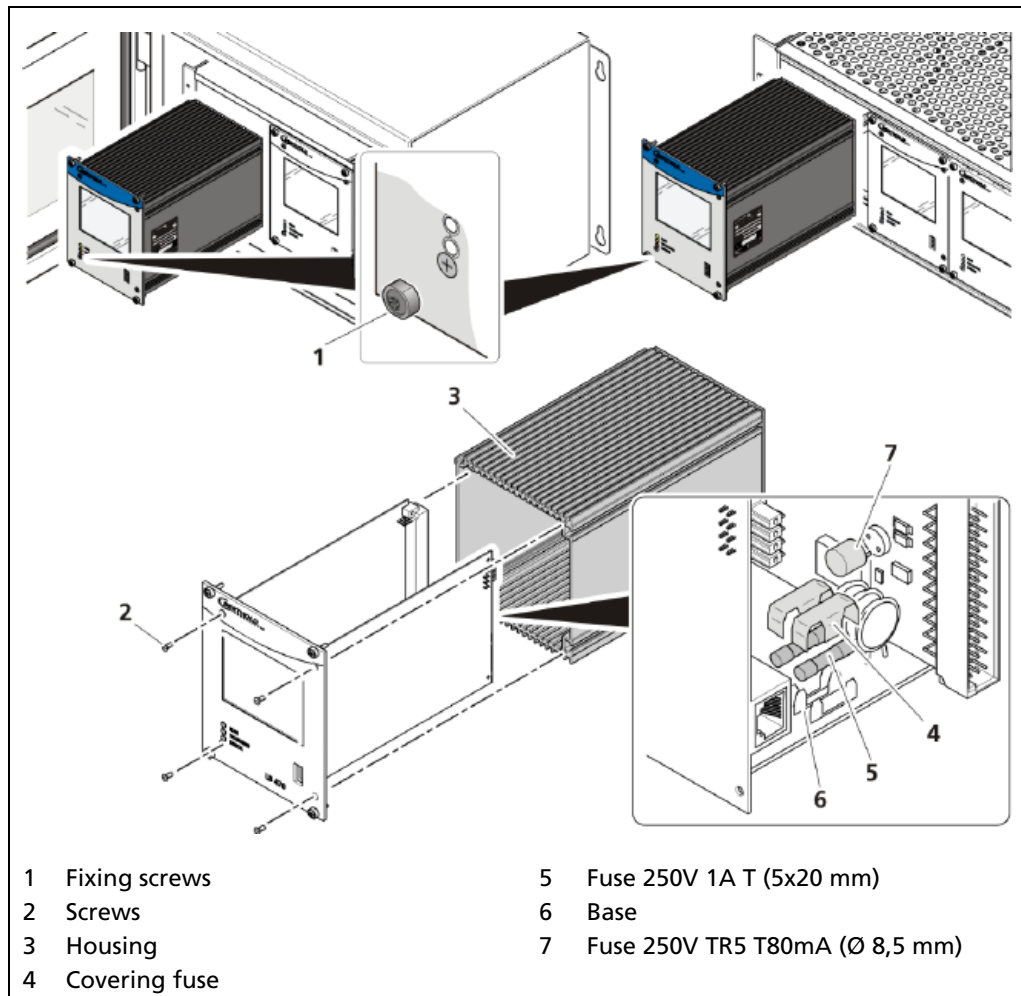

Fig. 132 Replacing fuses master EVU
2. Loosen the four fixing screws (Fig. 132, item 1) and remove the EVU from the wall housing or subrack.
3. Loosen the four sunken screws on the front side of the EVU (Fig. 132, item 2).
4. Pull out the housing (Fig. 132, item 3) carefully.
5. Remove the protective covering of the fuse (Fig. 132, item 4).
6. Remove the fuse (Fig. 132, item 5, item 7).
9. Screw the front panel to the housing with the four screws (Fig. 132, item 2).
11. Tighten all fixing screws (Fig. 132, item 1).